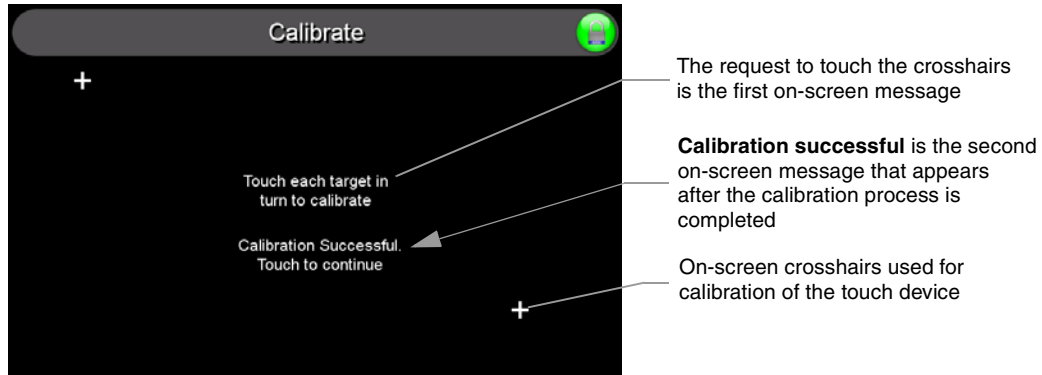

FIG. 28 Touch Panel Calibration Screens
1. Press and hold the grey Front Setup Access button (FIG. 27) for **6 seconds** to pass-over the Setup page and access the Calibration setup page (FIG. 28).
2. Press the crosshairs (on the Calibration page) to set the calibration points on the LCD (FIG. 28).